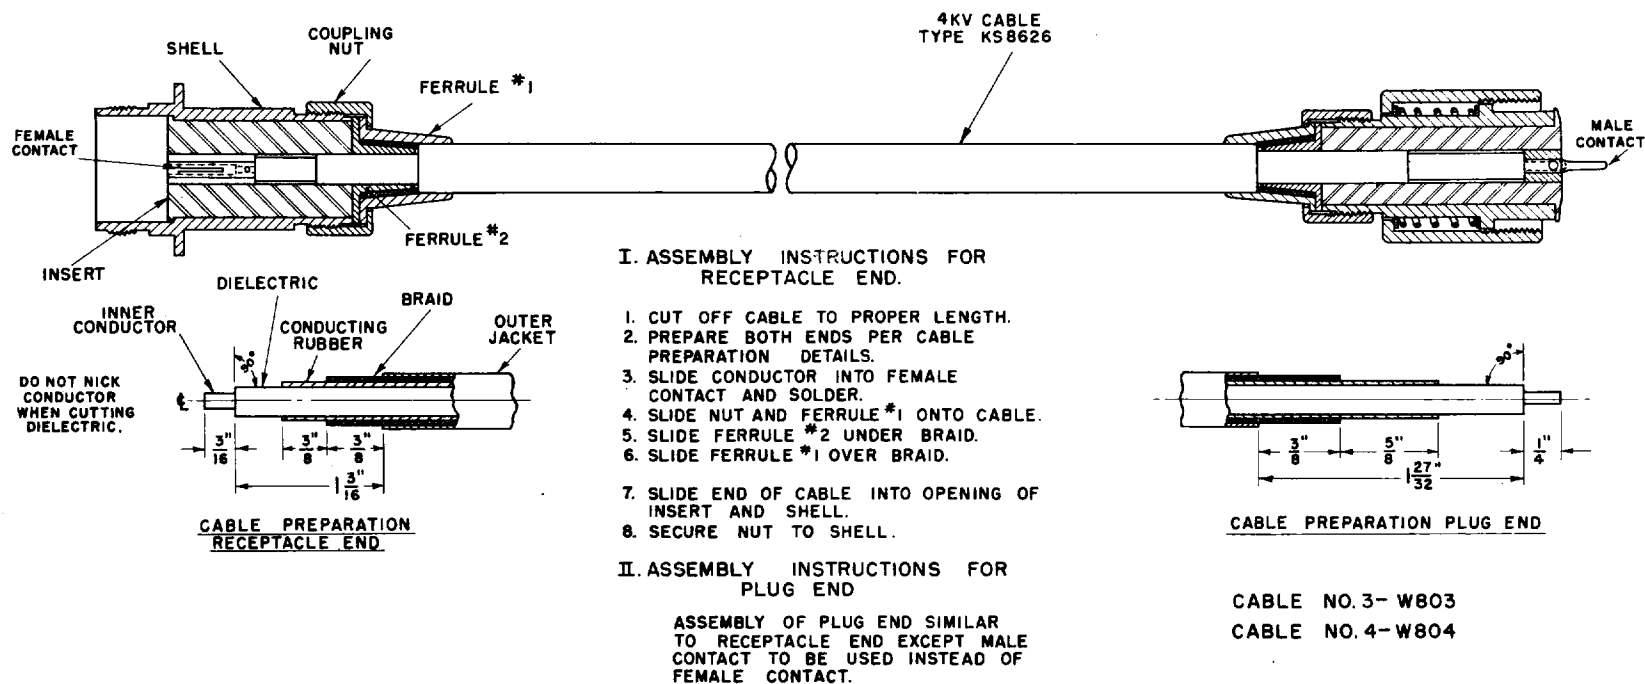

Figure 2-15. Cable Assembly—Cables No. 3 and 4
1. Cut a piece of 4-KV cable to the proper length and prepare in accordance with the instructions given in figure 2-15.
(d) CABLE W804 (Required when using two indicators).—This cable connects between the rectifier power unit and indicator number 2. Cut the cable to the length required and prepare it in accordance with the instructions given in figure 2-15.